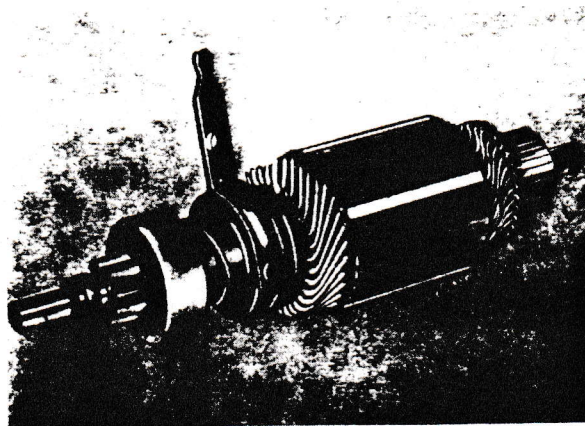

Fig. 49. Rotor with pinion
12. Lift the rotor with pinion and arm out of the bearing shield, see Fig. 49.